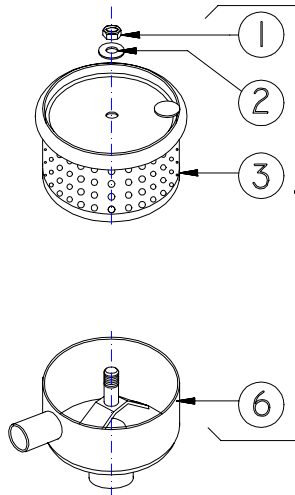

Fig. 16
4.2) Stop the machine, release spring (M) of rod (A), loosen nut (D) and tighten the tie rod (V) making it go round 4-5 times. Then re-hitch the spring to the rod and repeat the operations of points 1-2-3-4.
If, after increasing the spring (M) pulling potential as described above, the piston (C) continues to impede the rod (P) it is necessary to check the correct function of the acceleration device by checking the **maximum pressure regulation valve** (fig. 16, page 26) proceeding as follows:
-- 10.1) AIR FILTER CHECKING (Fig. 16) --
- The filter consists of two filtering cartridges (1st and 2nd stage): to check them loosen the nut (fig. 16, part 1) and extract the cartridge of the 1st stage part 3.